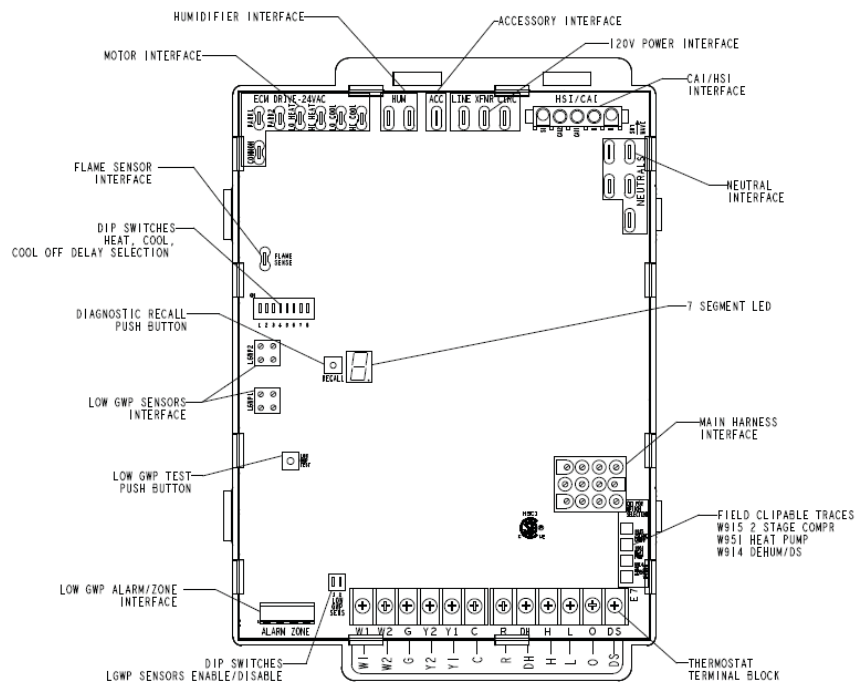

Figure 65.
7. One line voltage "ACC" 1/4" spade terminal is provided on the furnace integrated control. See Figure 65 for integrated control configuration. This terminal is energized when the indoor blower is operating. Any accessory rated up to one amp can be connected to this terminal with the neutral leg of the circuit being connected to one of the provided neutral terminals. If an accessory rated at greater than one amp is connected to this terminal, it is necessary to use an external relay.